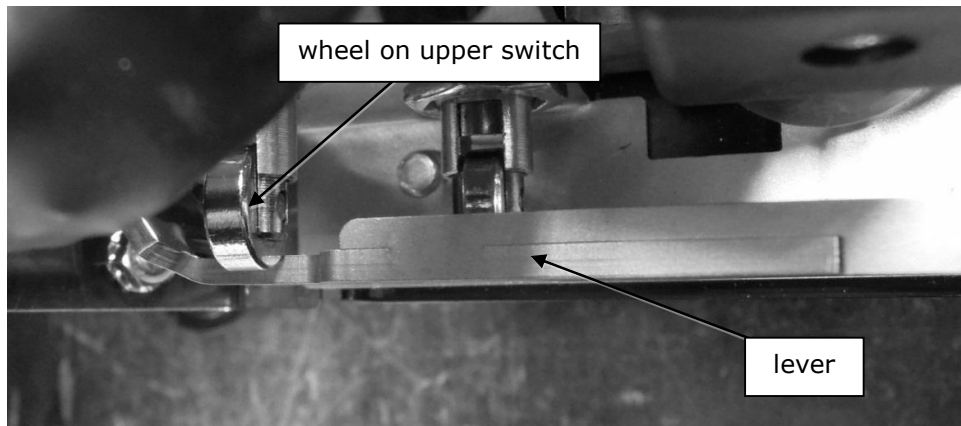

Figure 28. With the brewing lever in the middle position, the wheel of the upper switch should protrude halfway over the thickness of the lever material.
4. With the lever in the middle position (pre-infusion, pump off) the wheel on the upper switch should protrude halfway over the lever thickness at the point where it touches the lever (see figure 28).